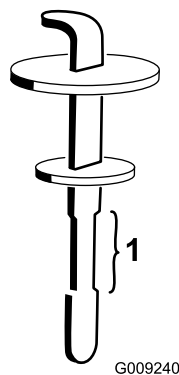

Figure 89
4. Remove the dipstick from the filler neck and wipe it with a clean rag. Insert the dipstick into the filler neck; then remove it and check the fluid level. The fluid level should be within the safe operating range on the dipstick (Figure 89).